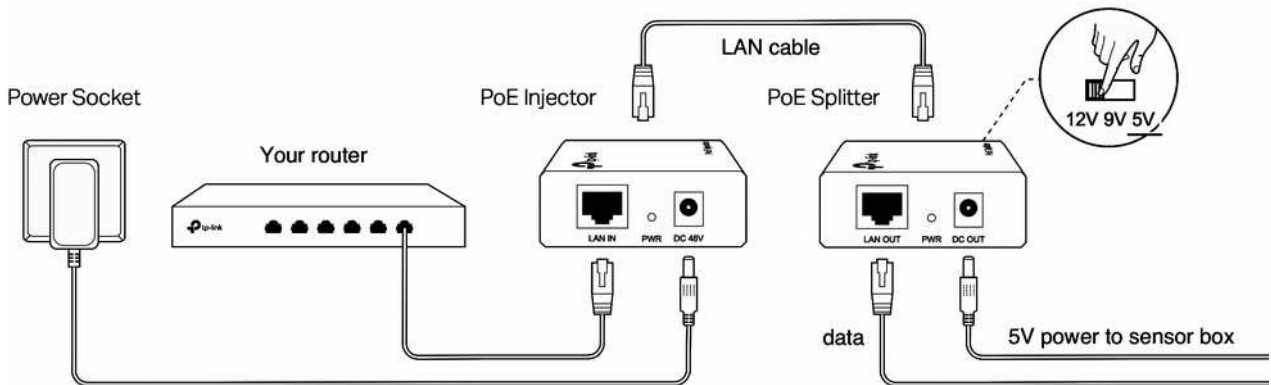

Fig. 2: Type B installation, power supplied to the sensor box over the LAN cable by PoE devices
- (B) Instal without mains supply: If an outdoor mains outlet is not available, the LAN cable can be used to supply also the power to the box. This will be accomplished by applying a pair of *PoE adapters* (power-over-ethernet). The pair consists of the 'Injector' at the location of the router to feed the power at 48V DC into the LAN cable, and the 'Splitter' at the location of the sensor box. It separates data vs power and transforms the delivered 48V DC to the required 5V DC, see fig. 2. (Some routers already deliver PoE. So an Injector is no more necessary.)